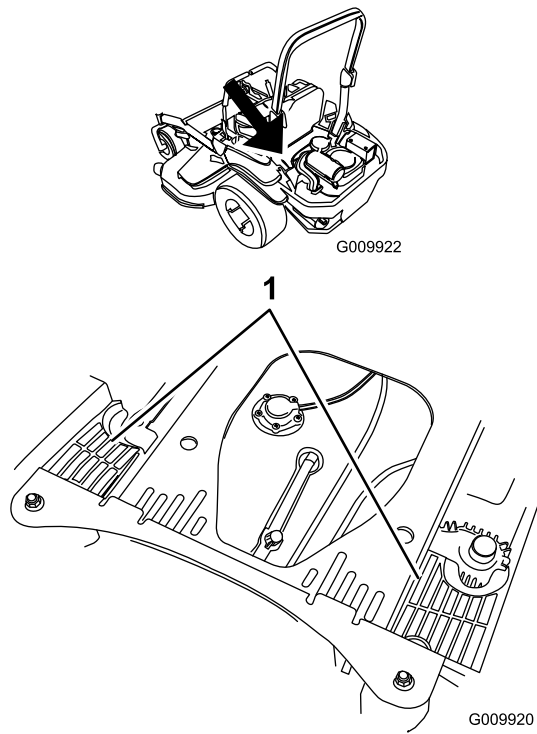

Figure 67
4. Clean the debris and grass from the hydraulic unit shrouds (Figure 67).